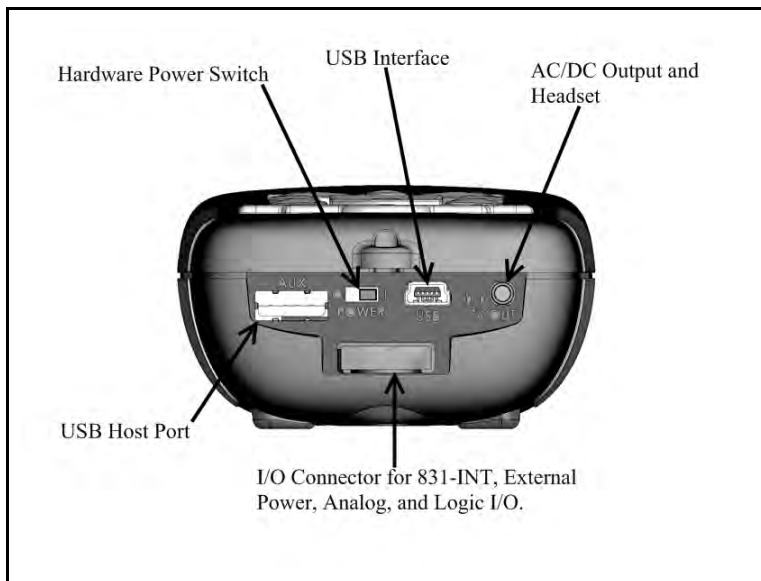
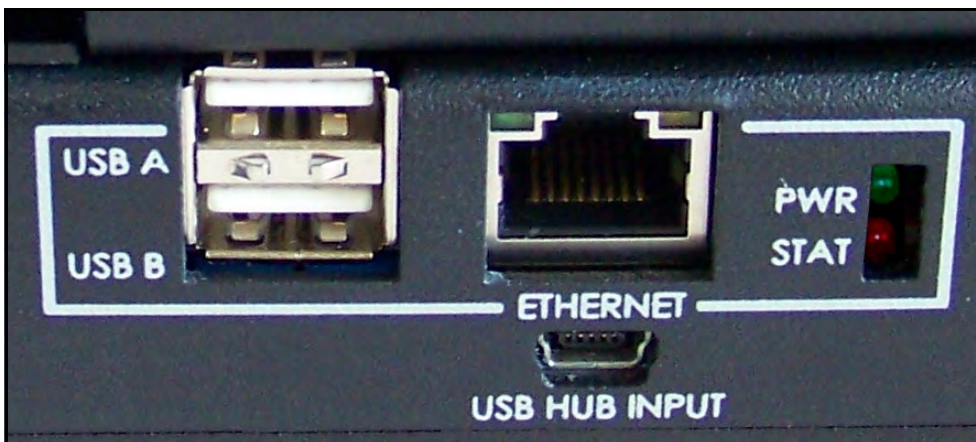

FIGURE B-1 Model 831 Bottom view
FIGURE B-2 Ethernet Status Lights and Ethernet PWR Light
- Step 3** Check that the CBL159 is connected from the Model 831 USB client port (marked USB on the Model 831, *Figure B-1*) to the 831-INT-ET SBC USB port marked “USB B” (See *FIGURE B-2* and *Figure B-2*).
- Step 4** Verify that the CAT5e or CAT6 Ethernet cable is attached to the network router and also to the 831-INT-ET Ethernet connector. (See *Figure B-2*.) The green LED on the Ethernet connector should be on; the yellow LED will blink with network connectivity.
- Step 7** If the 831-INT-ET and Model 831 power up, but the SBC green PWR light (*FIGURE B-2**Figure B-2*) on the 831-INT-ET remains off:
- Make sure the CBL159 USB cable is connected from the Model 831 USB Host port (marked AUX on the Model 831, *Figure B-1*) to the 831-INT USB hub port (marked USB HUB INPUT, *FIGURE 2-4*).